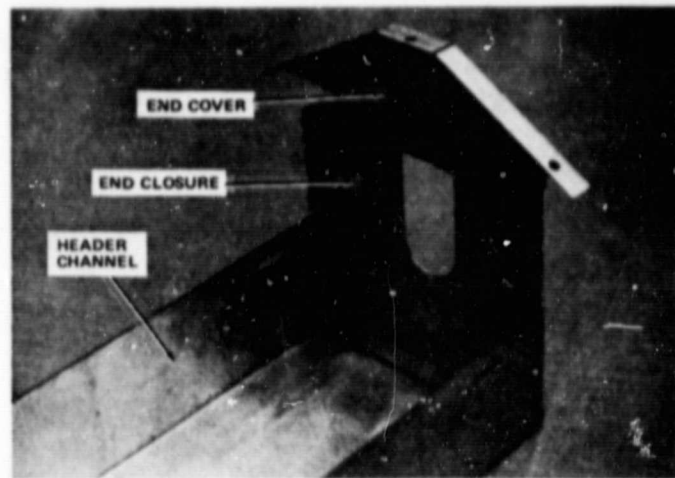
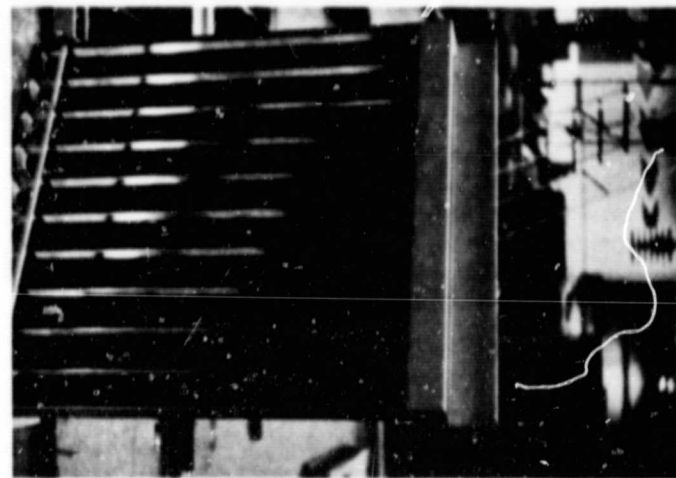

Figure 3-12. Attach End Closure and Cover for End-of-Row Collectors
Figure 3-13. Attach Bottom Channel to the Collector
7. Attach the end closure and cover to the header channel, (Figure 3-12). Re-install the collector transition cover and attach the bottom header channel to the collector (Figure 3-13) using the six screws previously removed. The outside edge of the channel should be 1/8" beyond the end of the collector to prevent overrun of the channel assemblies.